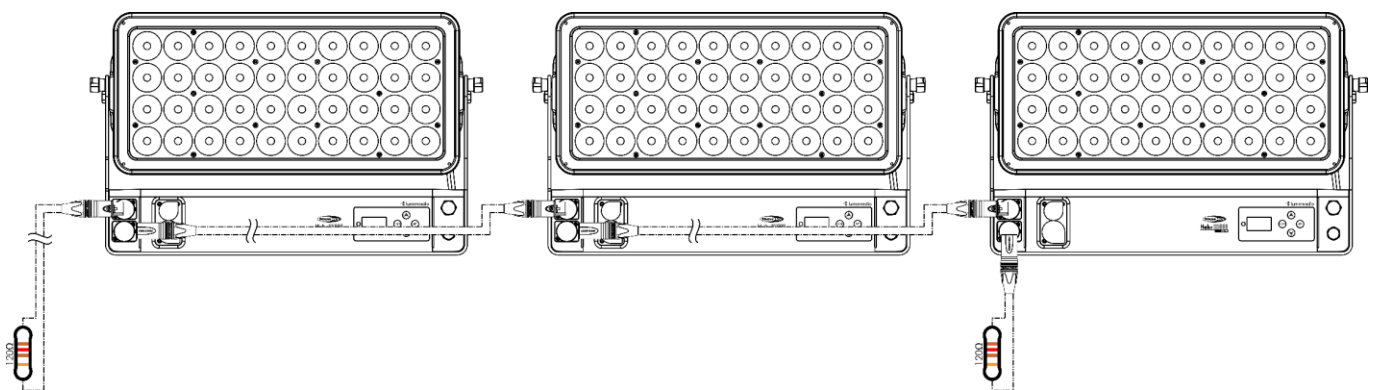

Fig. 15
- 02) Repeat step 1 to connect all devices as shown in Fig. 15.